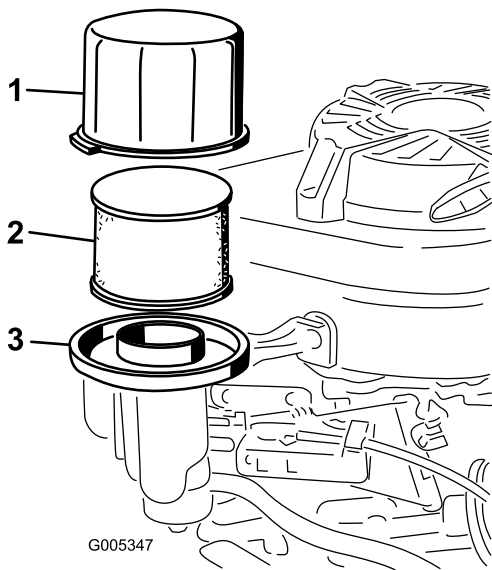

Figure 18
3. Remove the cover and clean it thoroughly (Figure 18).
4. Remove and the foam pre-cleaner and the paper-air filter from the air-cleaner base (Figure 18)